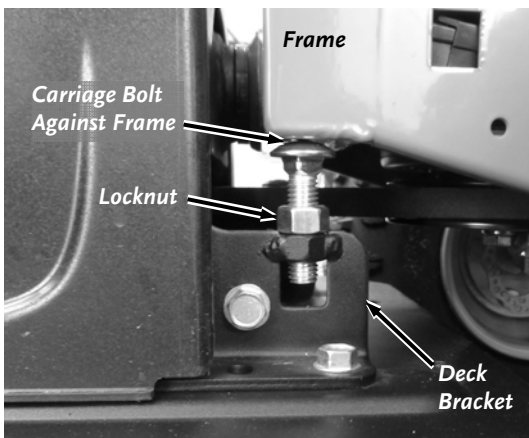

Figure 24
1. Loosen both Locknuts using a 3/4" Wrench as you hold the square portion of the Carriage Bolts using a 1/2" Wrench (**Figure 24**).